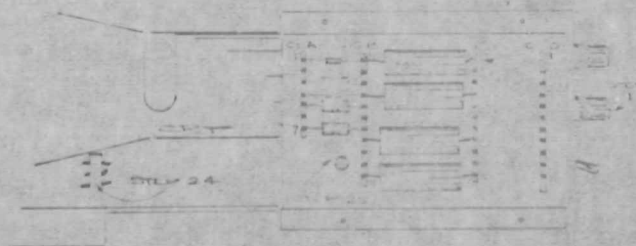

Fig. 4
- () 24. Replace the two-hole post (directly below the Mag Gain adjustment) with a three-hole post, placing the two white wires (removed when replacing post) through the two top holes in the three-hole post. Resolder wires to their original connections (see Fig. 4, step 24).
- () Mount the 1/4 in. grommet (from kit) in this hole (see Fig. 4, step 25).